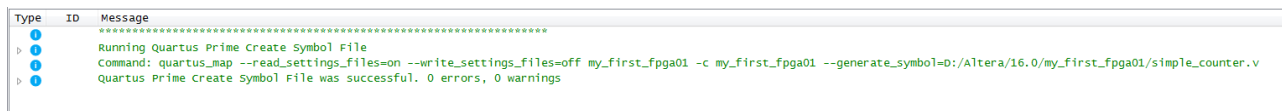

Figure 3-5 Create Symbol File was Successful
10. The Quartus II software creates a Symbol File and displays a message (see Figure 3-5).